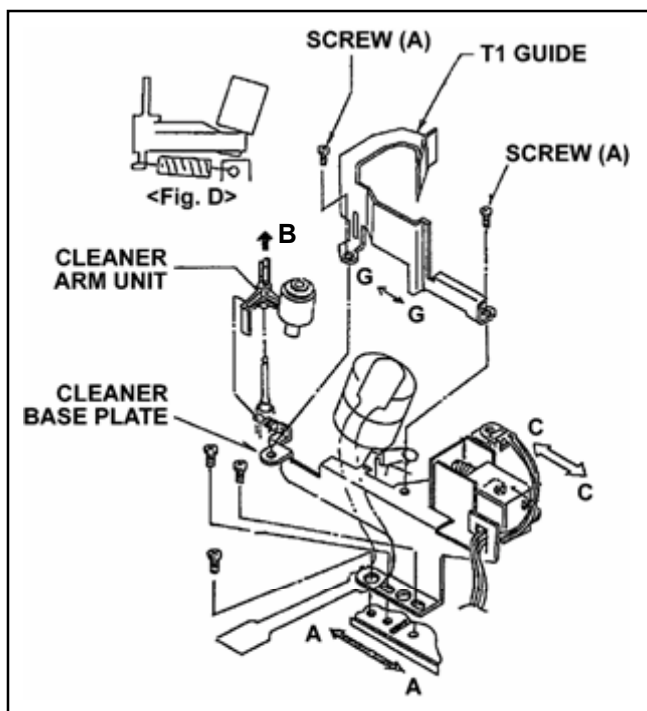

Figure 5-2-1
1. Unscrew the 2 screws (A) and remove the T1 Guide as shown in Figure 5-2-1.